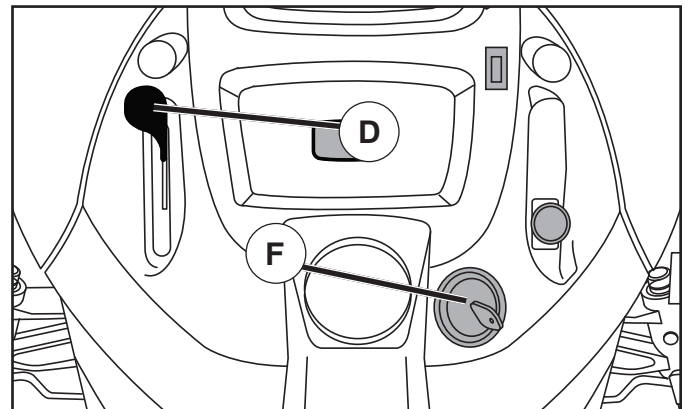

Fig. 10
- Move throttle control (D) between half and full speed (fast) position.
- Turn ignition key (F) to "STOP" position and remove key. Always remove key when leaving tractor to prevent unauthorized use.
### TO USE THROTTLE CONTROL (D) (See Fig. 10)